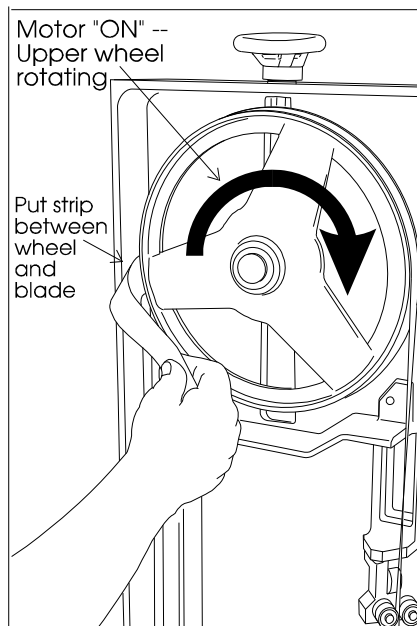

Figure 9: Inserting the paper strips between the blade and wheel to adjust blade-to-shoulder clearance
6. Use the blade tracking adjustment screw to *stop the motion of the blade* on the wheel as it gets close to the shoulder. Now, put a strip of paper between the blade and wheel as shown in *Figure 9*. **KEEP FINGERS CLEAR OF THE BLADE AND WHEEL.** (That's why the paper strip should be at least 6 inches long.)